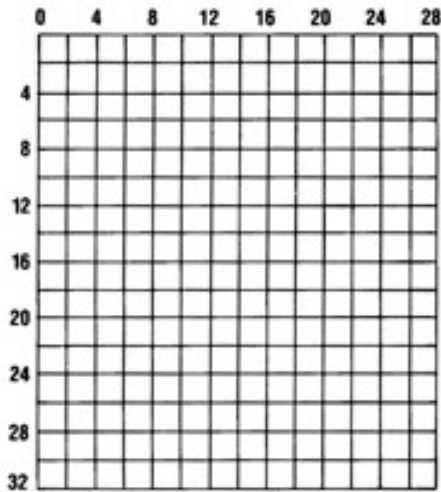

FIG. 1 - Sketch the room dimensions to scale here.
- Draw the exact dimensions to scale on graph paper (Fig. 1) Then estimate the material required.
- According to the decision, sketch the layout for the planned ceiling on graph paper. One can use the layout in Fig. 1. Position the 'T's so that the border patterns at the room edges are equal on both sides and as large as possible. Attempt should be to get end panels more than half the tile/panel.